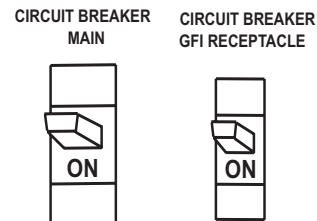

Figure 34. Main and GFCI Circuit Breakers
12. If there are no abnormal problems shown on the MPEC LED display, turn both the MAIN and GFCI circuit breakers to their ON position (Figure 34).